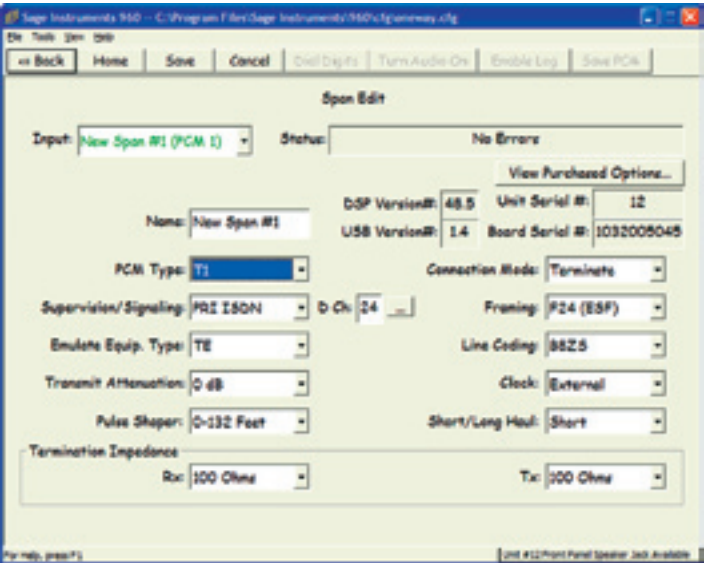

Figure 121
3. For the ISDN D Channel Test to run it is important to establish a crossover on the "Emulate Equipment Type". While still in the configure span window for PCM 1 change the "Emulate Equipment Type" pull down menu from "NT" to "TE" (see figure 121). Click save and return to the span window.